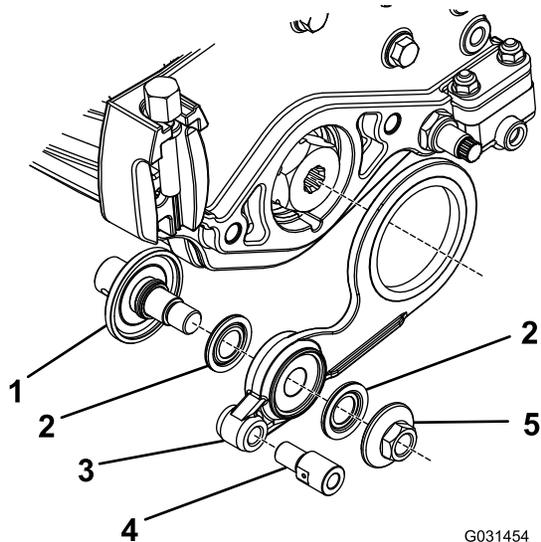

Figure 16
1. Assemble the loose parts to the idler assembly as shown in Figure 16.
Note: Install parts 1 through 5 in reverse if you are installing the idler assembly on the opposite side in Figure 16.